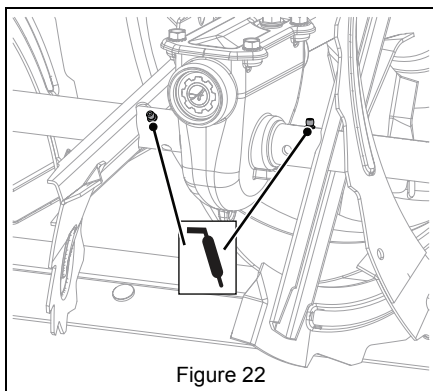

Figure 22
2. Apply grease at the grease zerks. See Figure 22.